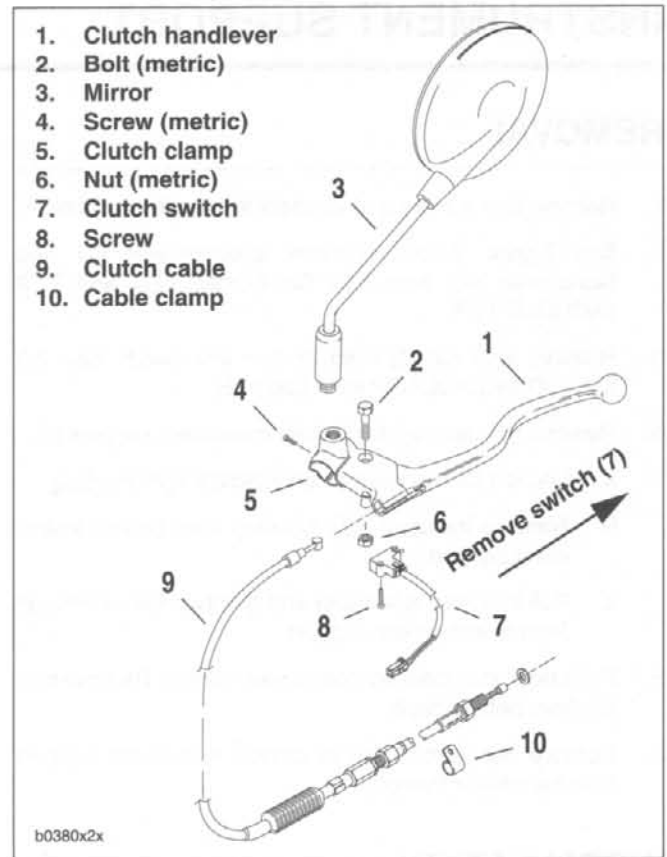

Figure 2-133. Clutch Hand Control
1. See Figure 2-133. Detach clutch switch (7).
- a. Remove screw (8).
- See Figure 2-133. Attach clutch clamp (5) as follows.
- Place clamp next to switchgear housing. Fasten to handlebar with screw (4) (metric). Tighten to 30-35 **in-lbs** (3.4-4.0 Nm).
- Apply small amount of LOCTITE ANTI-SEIZE LUBRICANT to bolt (2). Attach handlebar with bolt (2) (metric) and nut (6) (metric).
- Attach clutch switch (7) with screw (8).